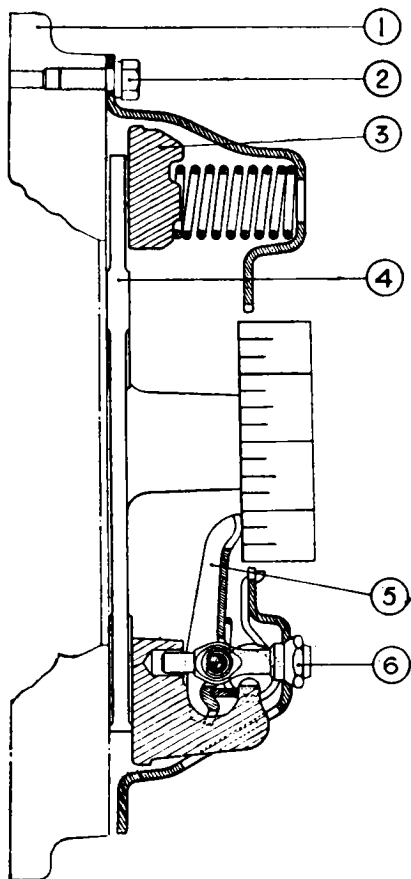

Fig. 14. Release lever adjustment.
(1) Using a Borg & Beck gauge plate (Fig. 14)
(a) Mount the clutch on the actual or a spare flywheel (1, Fig. 14) or alternatively clamp it down to a flat surface, with the gauge plate (4) occupying the position normally taken by the driven plate. The ground lands of the gauge plate should each be located under a release lever (5).